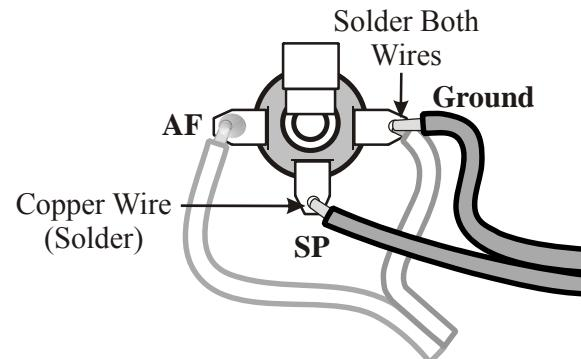

Figure 7-5
- Connect the other end of this cable to the external speaker jack as shown in Figure 7-5. The copper wire must be connected to the lug marked "SP" below. Solder all three lugs.